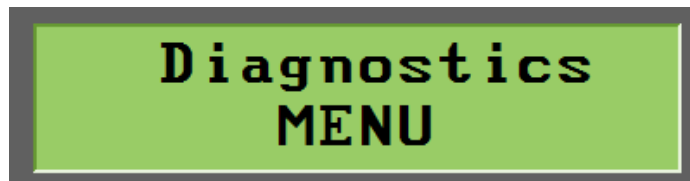

Figure 5-3. Diagnostics Menu
3. Using the left or right arrow key, navigate to the Diagnostics menu as shown in Figure 5-3.